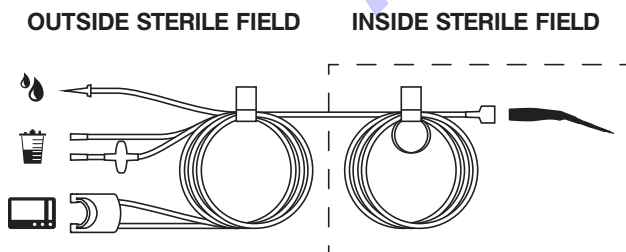

Figure 87 – Irrigation Suction Cassette Bundles
- The outer packaging allows two methods of aseptic transfer: (1) open and drop/dump or (2) open and offer/pick.
5. Pass the tubing bundle with the cassette, irrigation spike, and suction canister tubing connectors outside the sterile field toward the console (Figure 87).